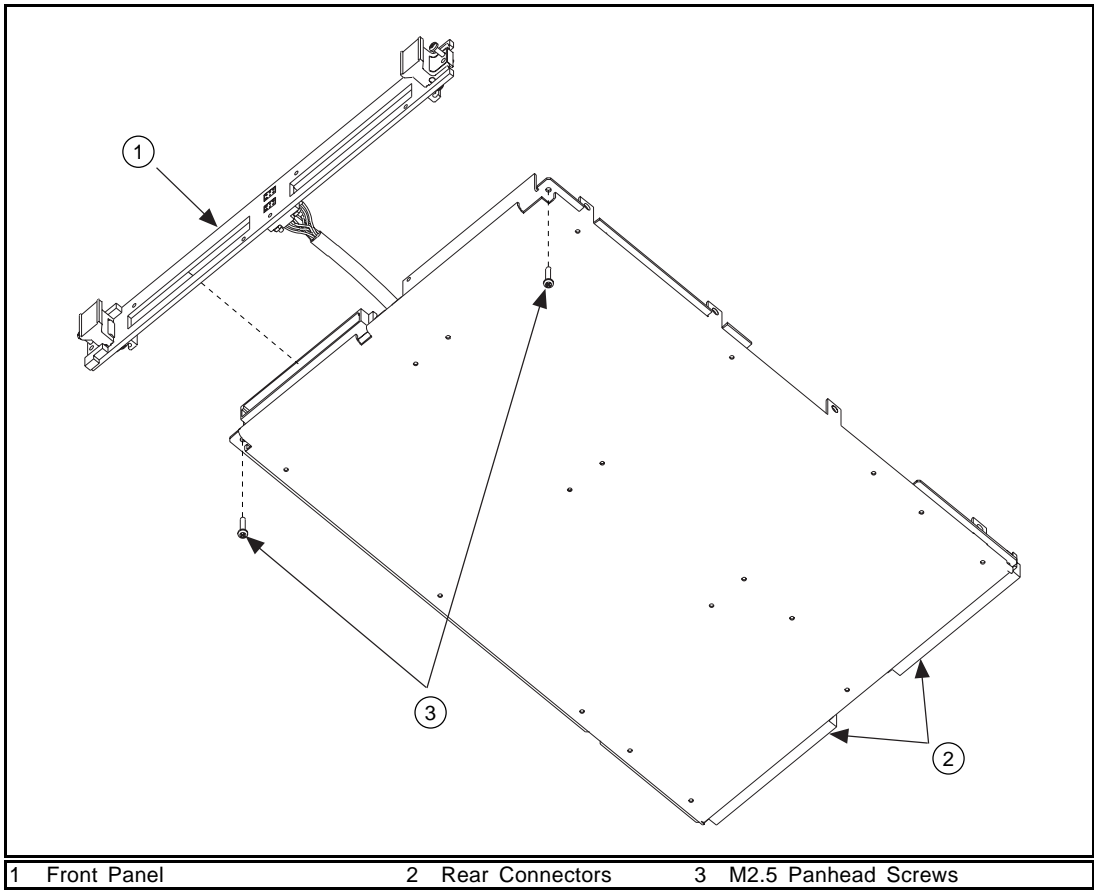

Figure 6. Re-installing the Front Panel Assembly (bottom view)
4. To re-install the front panel assembly, use the two M2.5 screws that you removed in Step 2 and attach the front panel/cable assembly as shown in Figure 6.